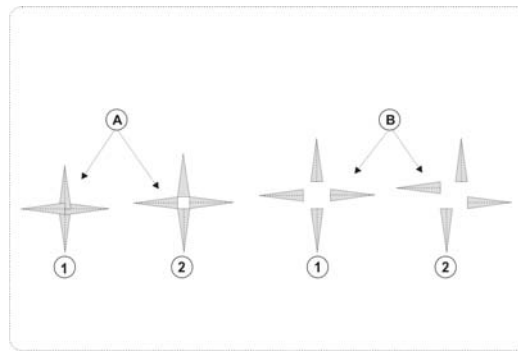

Figure 11
- Remove the upper carton and use a magnifying glass to examine the cuttings of the knife. If the knife is mounted properly, the cuttings should look like Figure 11, A, position 1. The cuttings should not deviate more than one width of the knife as shown on Figure 11, A, position 2;
- If the mismatch is greater than one width of the knife – Figure 11, B, position 1 & 2, please remove and then install the knife again point 9.4.1 (9.4.2) Then perform the same quality check;